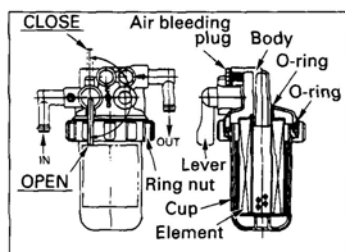

Fig. 20
- 1) Turn the fuel filter lever just above (close) until it stops to cut off the fuel. (See Fig. 20)